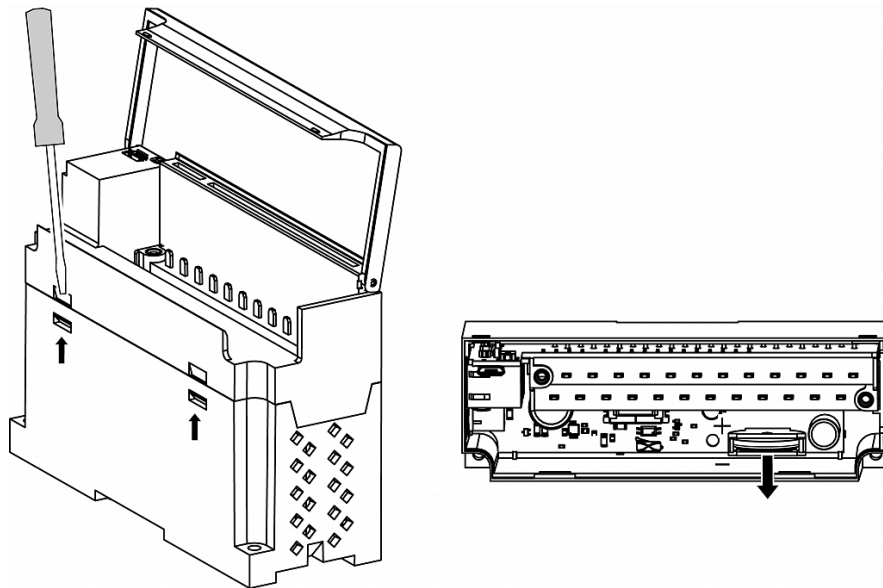

Fig. C.1 Battery replacement
- remove the front part of the case by opening the four side latches one-by-one using a flat screwdriver (Fig. C.1)